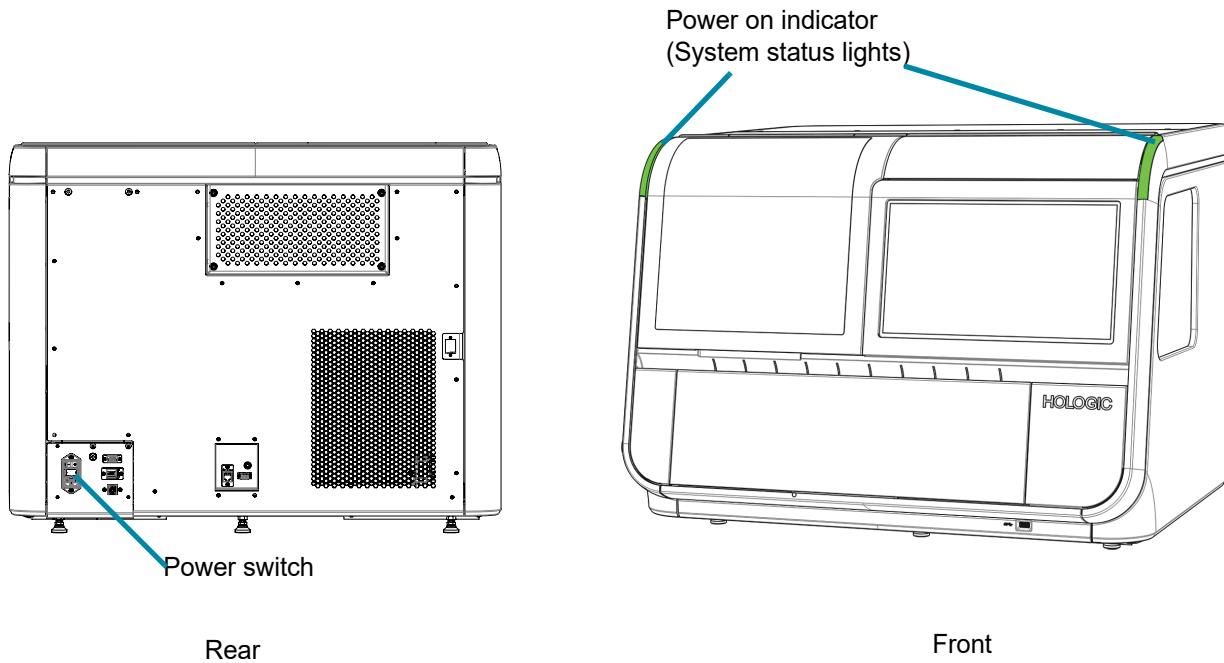

Figure 1-4-2 Digital Imager power switch
2. Press the rocker switch on the rear of the Digital Imager to ON (I). (See Figure 1-4-2.)